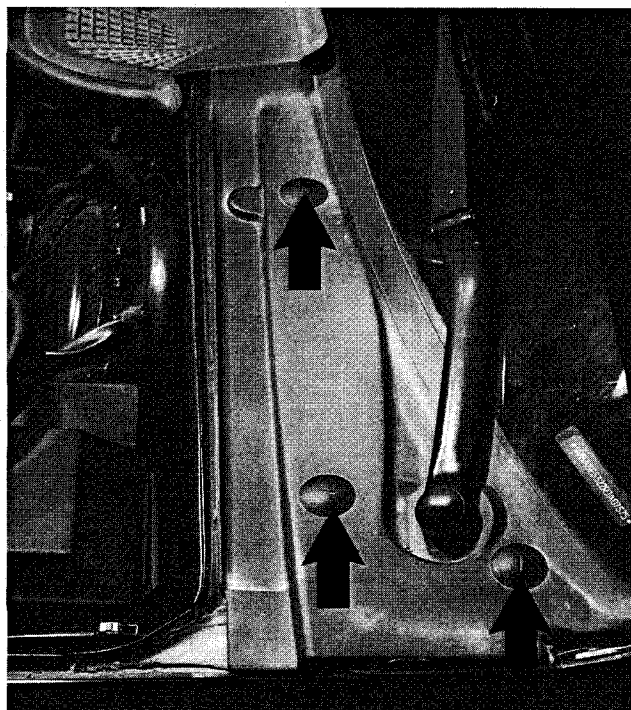

Fig. 12. Left side air plenum grill trim retainers (arrows).
4. Remove trim retainers at left and right side and remove air plenum grill. See Fig. 12.